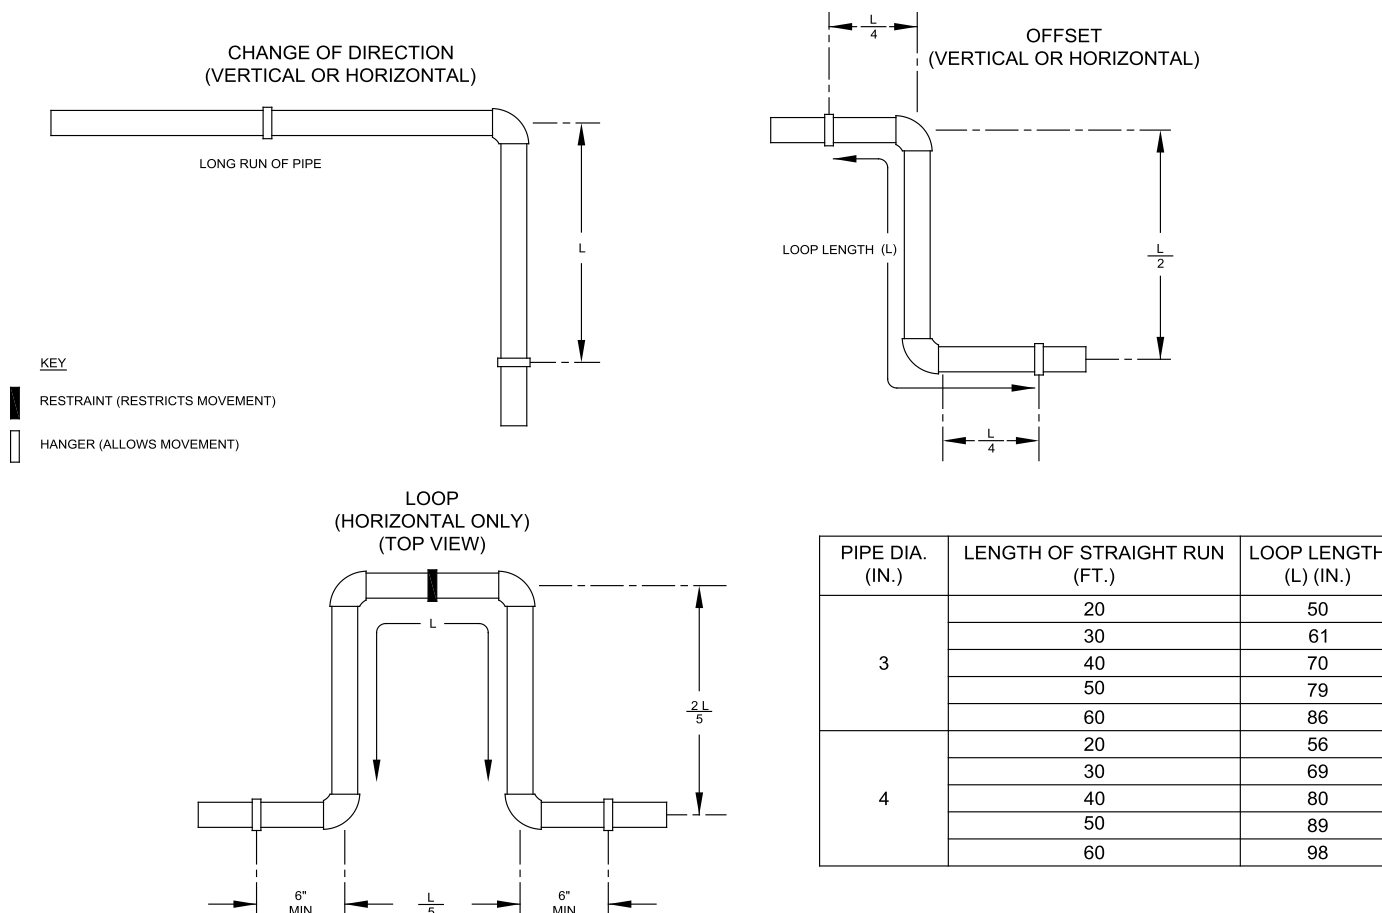

Figure 3: Expansion Loop and Offset
- Design the Vent System to allow a 3/8" of thermal expansion per 10 feet of CPVC/PVC pipe. Runs of 20 ft. or longer that are restrained at both ends must use an offset or expansion loop. Refer to Figure 3.
See Figures 3 thru 8.
Refer to Figures 3, 4, 5, 8, 9 & 10.
Refer to Figures 3, 4, 5, 7, 8 and 11.